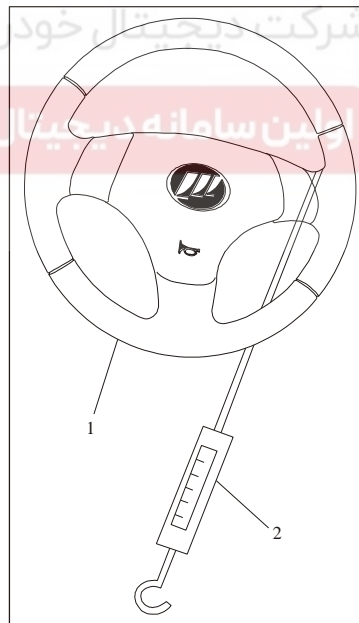

Figure 6-10 Check of operating force of steering wheel
(1) Start and run the engine idle, at the same time, move the steering wheel continuously to the extreme positions for many turns to increase the temperature of steering fluid.
(2) Set the front wheels at forward position.
(3) Connect the spring dynamometer to the flange of steering wheel as shown in Figure 6-10.
(4) Start and run the engine idle, then pull the spring dynamometer; once the steering tire starts moving, write down the reading of spring dynamometer.
(5) The reading of spring dynamometer shall be less than 40N; in the case of over-large reading, it indicates over-large operating force required by steering wheel upon rotation and abnormal function of power steering, then the power steering pump and steering gear shall be checked; in the case of normal pressure in power steering pump but over-large steering force, the steering control valve, power hydraulic cylinder and steering gear shall be checked.